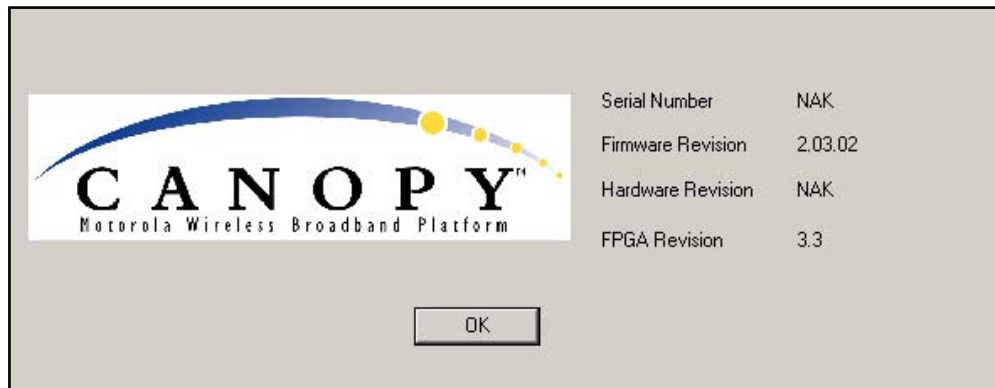

Figure 25: FPGA revision details screen
9. Verify that the intended firmware version is indicated on the screen that results, as shown in Figure 25.